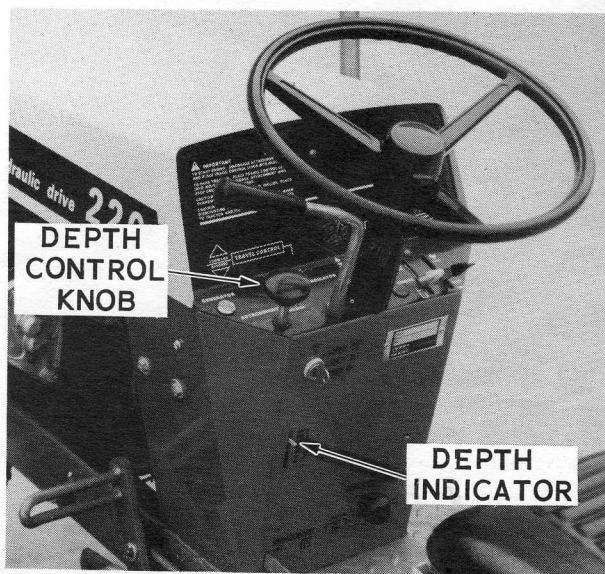

Figure 5.
1. Depth Control Knob - See Figure 5. Turn the Depth Control Knob to position the Depth Indicator at the top of its notch when operating the snow blower. This position will permit the skid shoes to remain in contact with the surface being cleared even though it may not be level.